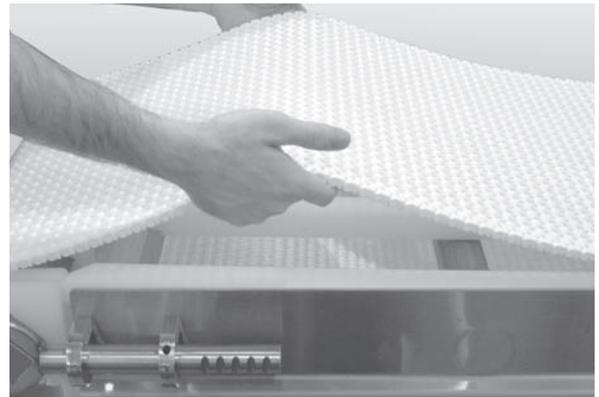

Figure 48
3. Lift up on the belt (**Figure 48**).